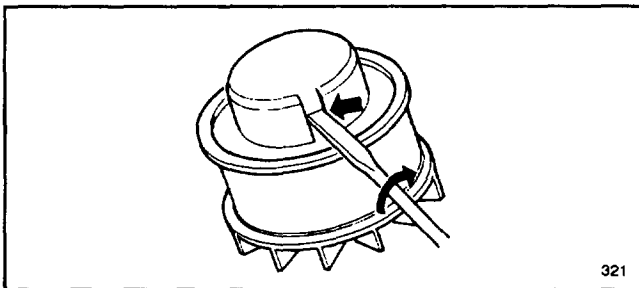

Figure 10
3. To remove empty spool, insert widest possible blade screwdriver snugly into one of two window slots. With screwdriver pressed firmly into window slot, twist screwdriver 1/4 turn. Spool will snap off (Fig. 10).